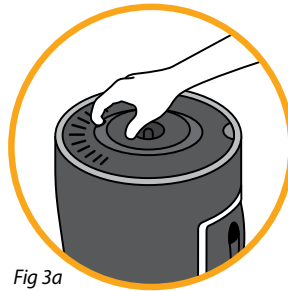

Fig 3a
- Begin by inserting a finger into the notch in the dispenser insert and prying up to reveal a gap (Fig 3a).